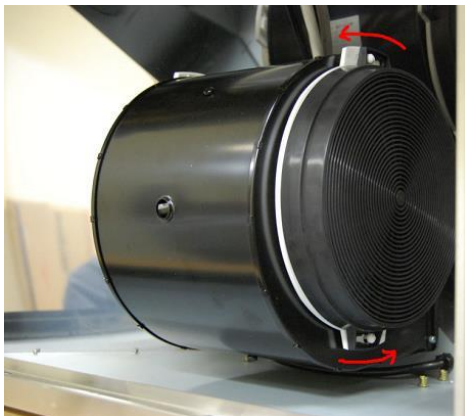

Fig. 3b
- b. Rotate the charcoal filters in a counter-clockwise motion until you hear a click. **(Fig. 3b)**